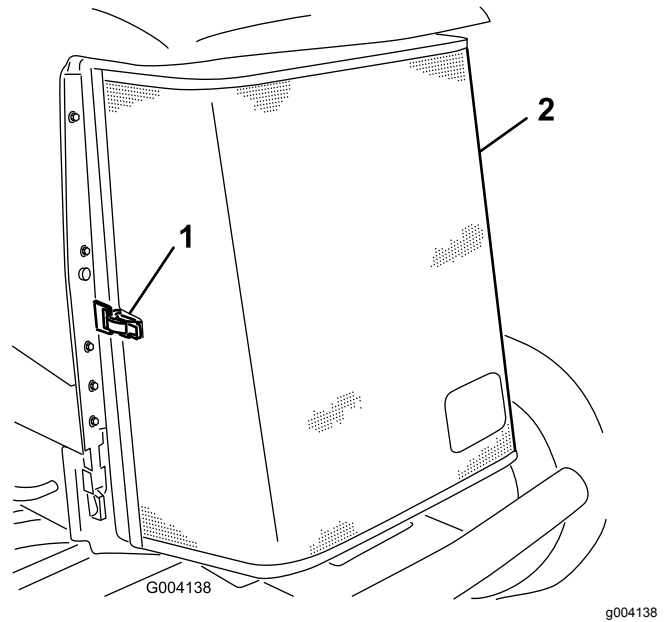

Figure 69
3. Unlatch the clamp and pivot open the rear screen (Figure 69).